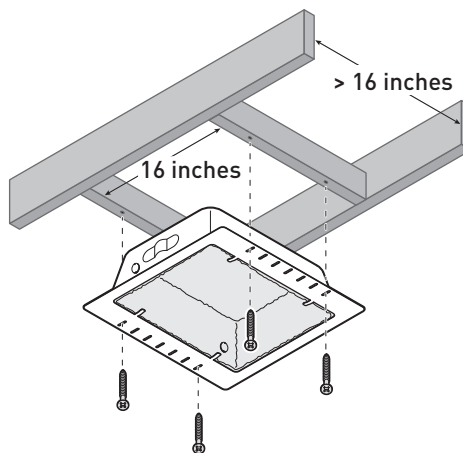

Fig. 3
**Note:** If the ceiling joists are wider than 16" on center, mount two 2" x 4" or 2" x 6" wood posts between the joists to fit the 16" width requirement. Turn the backcan for mounting to the posts. See Fig. 3.
**Note:** When mounting the backcan to posts between joists wider than 16" apart, thread the wire through the wire routing tab to prevent the wire from being pinched between the backcan and the joist. See Fig. 3.